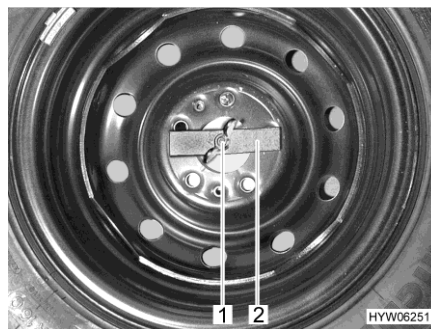

Fig. 244 Spare wheel in the rear storage space
- Loosen the wing nut (Fig. 244,1) by hand and unscrew it.
- Remove the pad (Fig. 244,2).